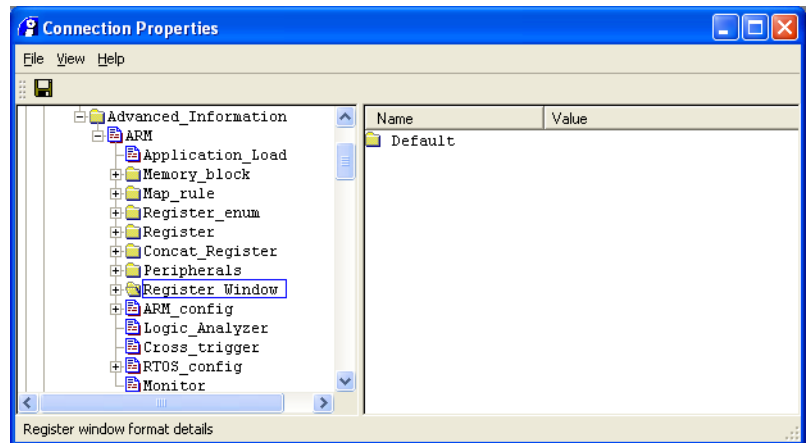

Figure 4-24 Register_Window group
2. Locate the Register_Window group in the Advanced_Information block group. Figure 4-24 shows an example: